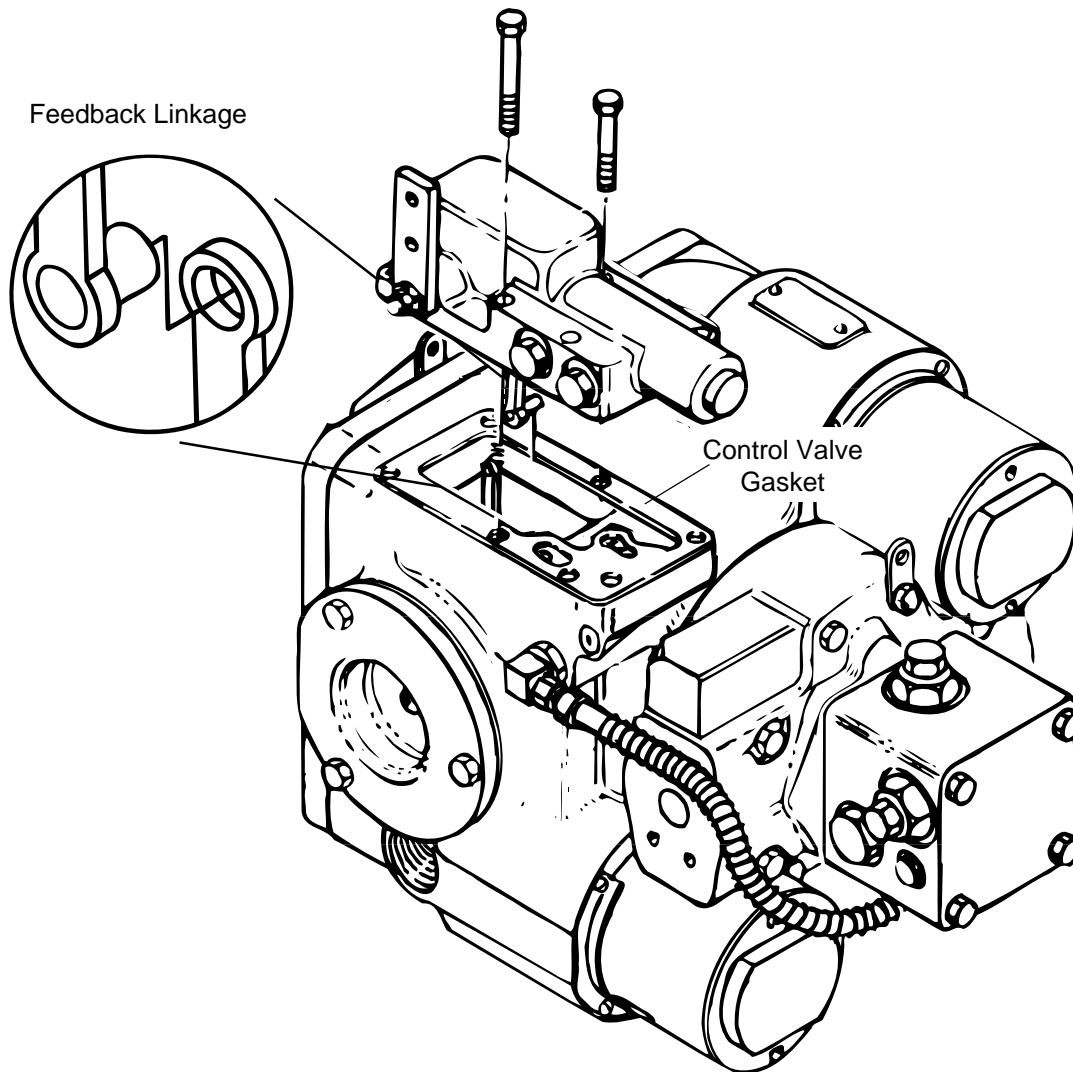

Figure 2
**3** Lift the control valve away from the motor and disengage the feedback linkage, see figure 2.